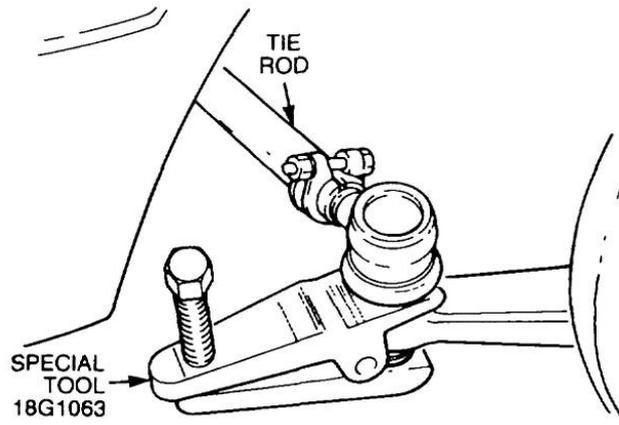

Figure 107 Removal of the Tie Rod
- g. Using special tool 18G1063, disconnect the tie rod ball-joints at the steering arms (Figure 107).